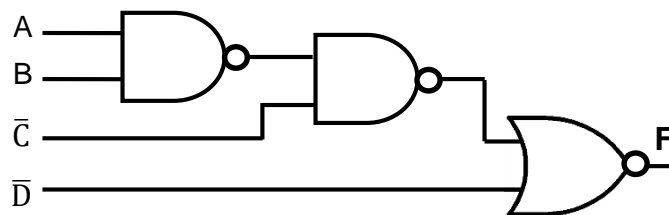

Figure Q3
- (a) For the combinational circuit shown in Figure Q3,